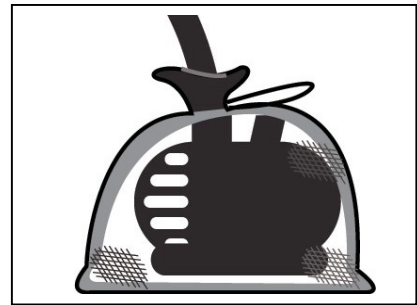

Fig. 2
2. Place the pump inside the pump barrier bag. Pull the drawstring until the pump barrier bag is fully closed around the tubing and power cord. Tie a knot in the drawstring. Fig. 2